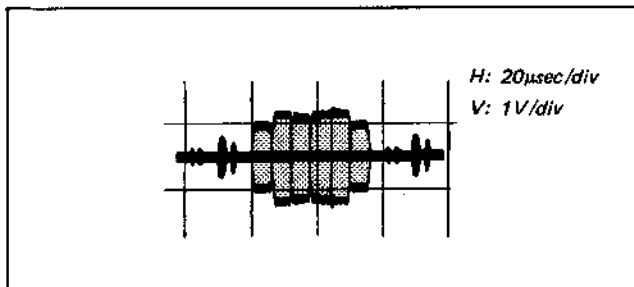

Fig. 4-4-21. Level check of chroma signal
- (1) Supply the VTR with the colour bar signal and set up the E-E mode.
- (2) Check that the chroma signal level at TP22 (pin 8 of IC2) is approximately 1.5 Vp-p. (See Fig. 4-4-21.)